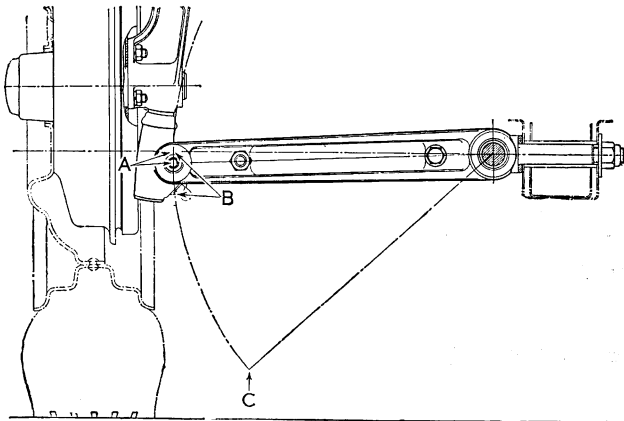

Fig. KK.1
The revised trim figures are given below. Refer to Fig. KK.1, but note that in condition (A) the outer pivot is now $\frac{1}{8}$ in. (3.18 mm.) **higher** than the inner pivot.